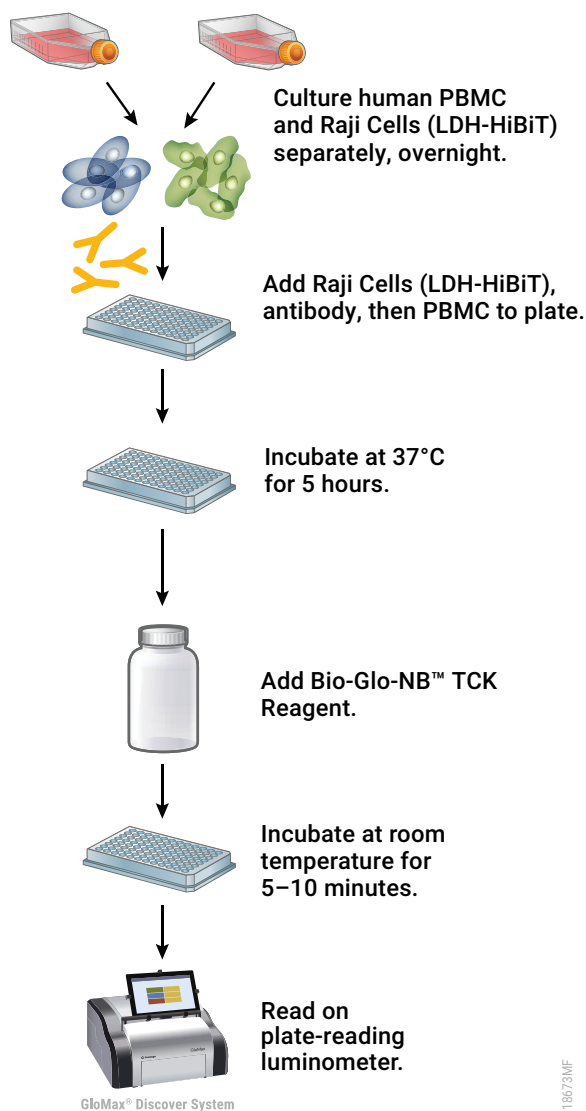

Figure 7. Schematic protocol for the Raji (LDH-HiBiT) TCK Bioassay, Propagation Model, in a PBMC ADCC assay application.
3. Using a multichannel pipette, 25 μ l of the appropriate antibody dilution to wells B3–G10 of the assay plate according to Figure 7. Add 25 μ l of PBMC ADCC assay buffer to SR control wells (B2–G2). Add 25 μ l of PBMC ADCC assay buffer plus 300 μ g/ml digitonin to MR control wells (B11–G11).